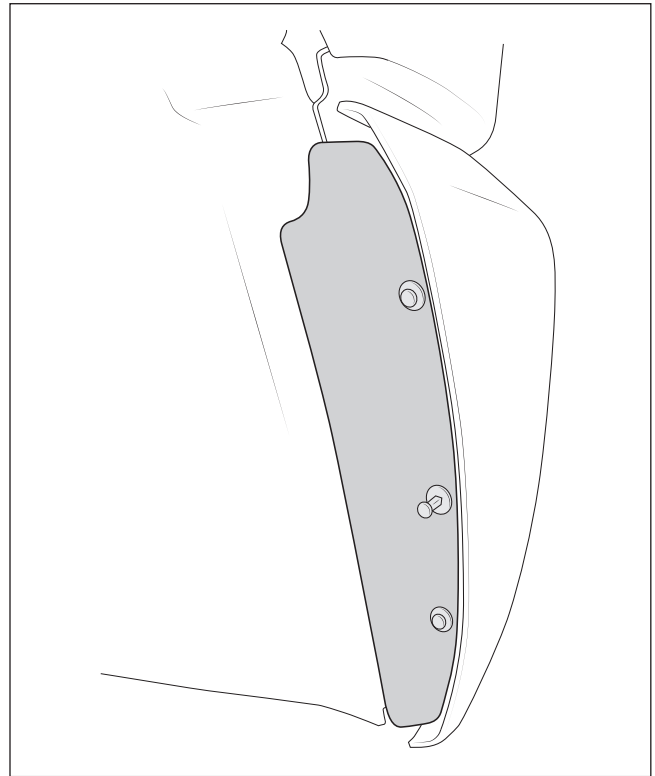

*Figure 22*
2. Carefully position the bezels on the bumper and press firmly. Use several strips of painter's tape to hold the bezel in place until the RTV cures (fig. 22).